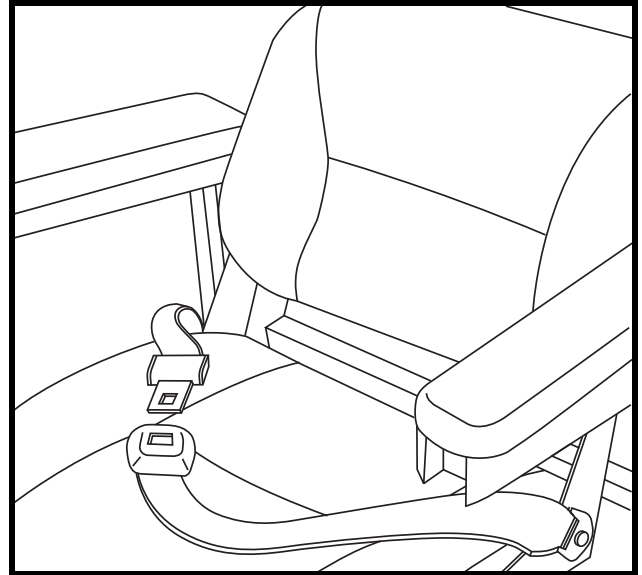

Figure 21. Positioning Belt
2. Place the seat upside down so that you can see the bottom of the seat base. **See figure 21.**
1. Insert the metal tab on the right side of the belt into the plastic housing on the opposite strap until you hear a “click.” **See figure 21.**